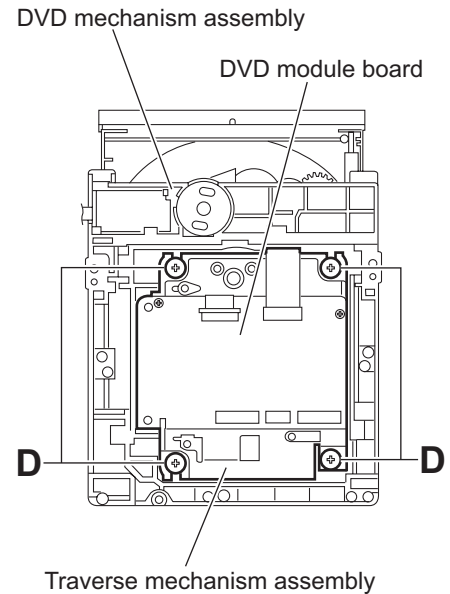

Fig.6
3.2.5 Removing the traverse mechanism assembly (See Figs.6)